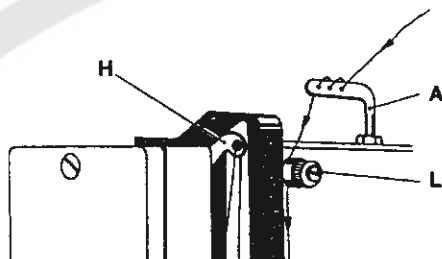
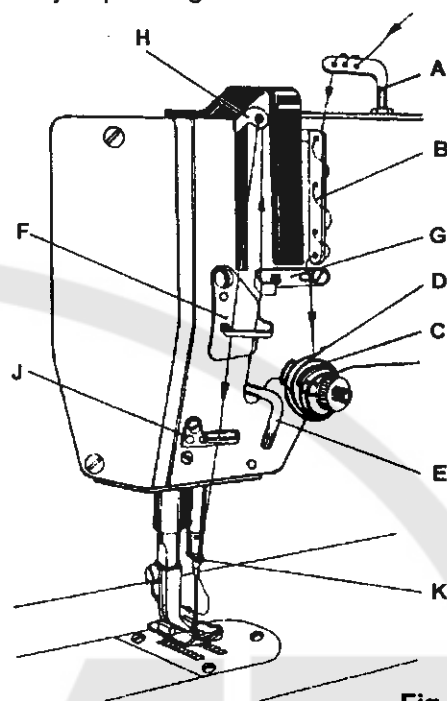

Fig. 7a
Fig. 7
Set the wound bobbin on the bobbin stand, unwind a sufficient portion of thread and lead it through the thread guide of the bobbin stand and then via the thread guides (A, Fig. 7, and B) - in machines not equipped with thread trimmer - or via the auxiliary thread guide (L, Fig. 7a) in machines equipped with thread trimmer, then between the tensioner discs (C), via the adjusting spring (D) and the thread guides (E, F, G) into the eye of the thread take-up lever (H), then downwards through the thread guides (F) and (J) and the thread guide (K) situated on the needle bar, and from there, from the front (from the operator) into the needle's eye.